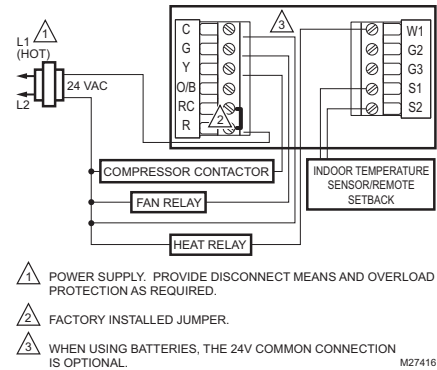

Fig. 6. Typical wiring of single transformer 1H/1C system.
- See Fig. 6 through 17 for wiring diagrams for specific equipment applications.